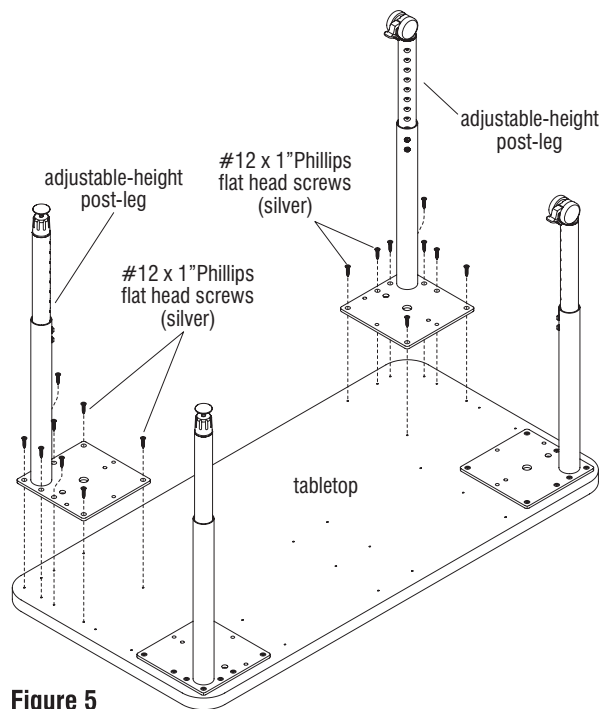

Figure 5
2. Position each post-leg over the pre-drilled mounting holes in the underside of the tabletop as illustrated. Secure the post-legs to the top using eight **#12 x 1" Phillips flat head silver screws** through each **square-shaped base** (Figures 5 & 6).